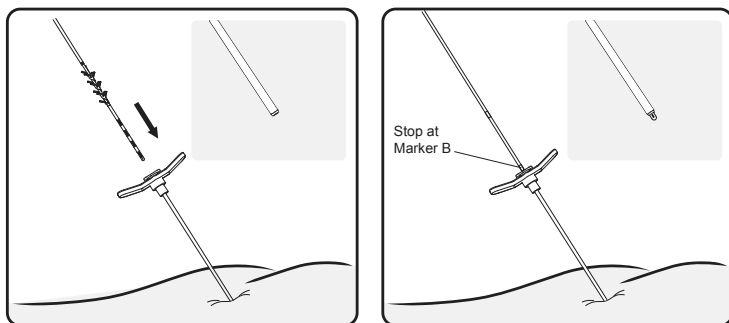

Figure 13. Insert the lead through the introducer sheath.
8. Carefully insert the tined lead (with stylet) into the introducer sheath until visual marker B on the tined lead is aligned with the top of the introducer sheath handle. Confirm with fluoroscopy that all electrodes on the lead are proximal to the distal tip of the sheath (**Figure 13**).